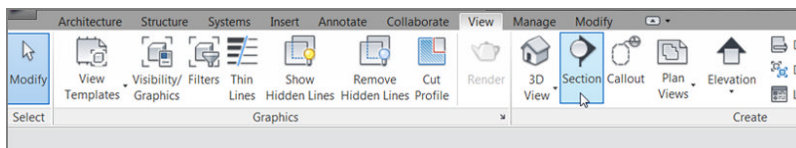

FIGURE 3.32: The Section command is found on the Create panel of the View tab.
2. On the Create panel of the View tab, select Section, as shown in Figure 3.32.